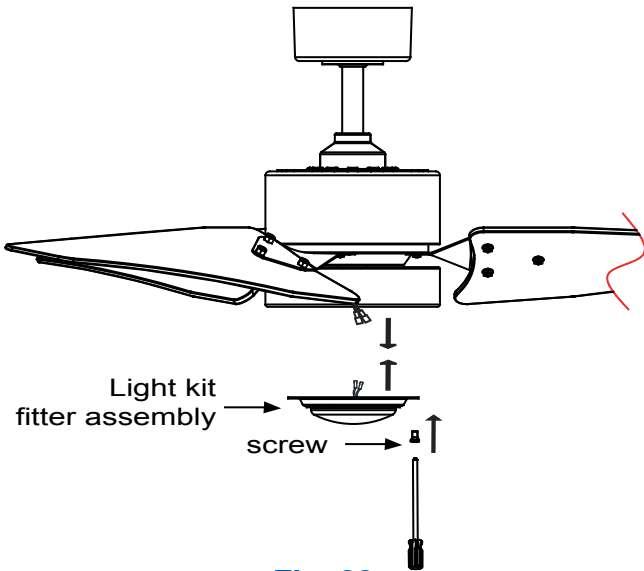

Fig. 20
Step 1. Remove one screw from the light kit pan, and loosen, but do not remove the other two screws. (Fig. 20)
Step 2. Connect the blue wire exiting the bottom of fan motor assembly with the black wire from the top of the light kit fitter assembly. (Fig. 20)
Step 3. Connect the white wire exiting the bottom of fan motor assembly with the white wire from the top of the light kit fitter assembly. (Fig. 20)
Step 4. Push the light kit fitter assembly up to the light kit pan so that the two loosened screw heads fit into the keyholes slots. Turn the light kit fitter assembly clockwise to secure. (Fig. 20)
Step 5. Re-install the screw that was removed in step 1. (Fig. 20)